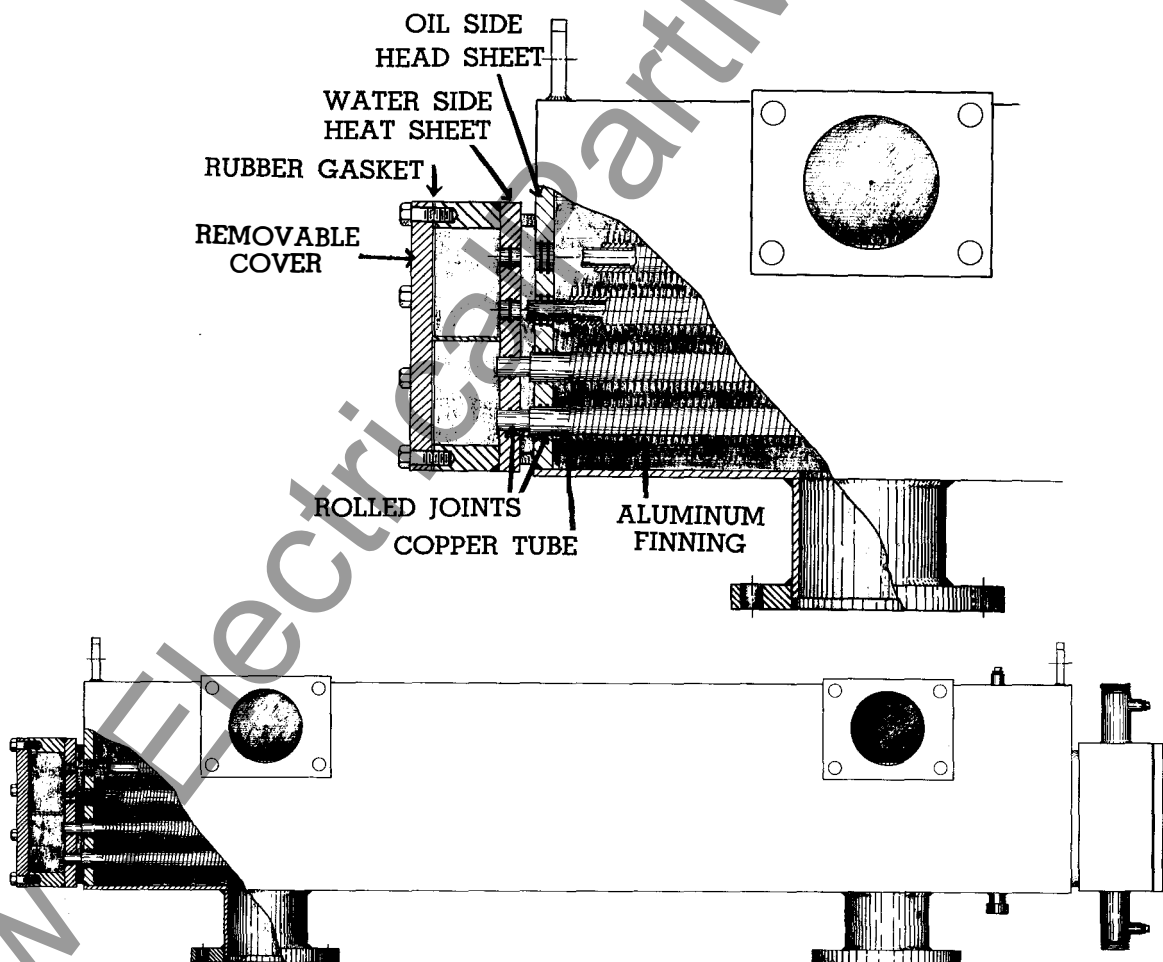

FIG. 1. TYPICAL WESTINGHOUSE STANDARD "OW" COOLER.
The "Standard" oil to water heat exchanger for Westinghouse transformers is designed for thermosiphon (OW) operation only. To obtain proper flow the heat exchanger must be mounted as high as possible on the transformer case below the gas space. Valves are provided at the oil inlets and outlets of the heat exchanger to allow removal in the field, without lowering the oil level. The heat exchangers may be supplied with a single or multiple parallel path for oil flow. **Care should be taken to be certain all valves are open when operating the heat exchanger.** Figure 1 is a typical section of the "Standard" heat exchanger.